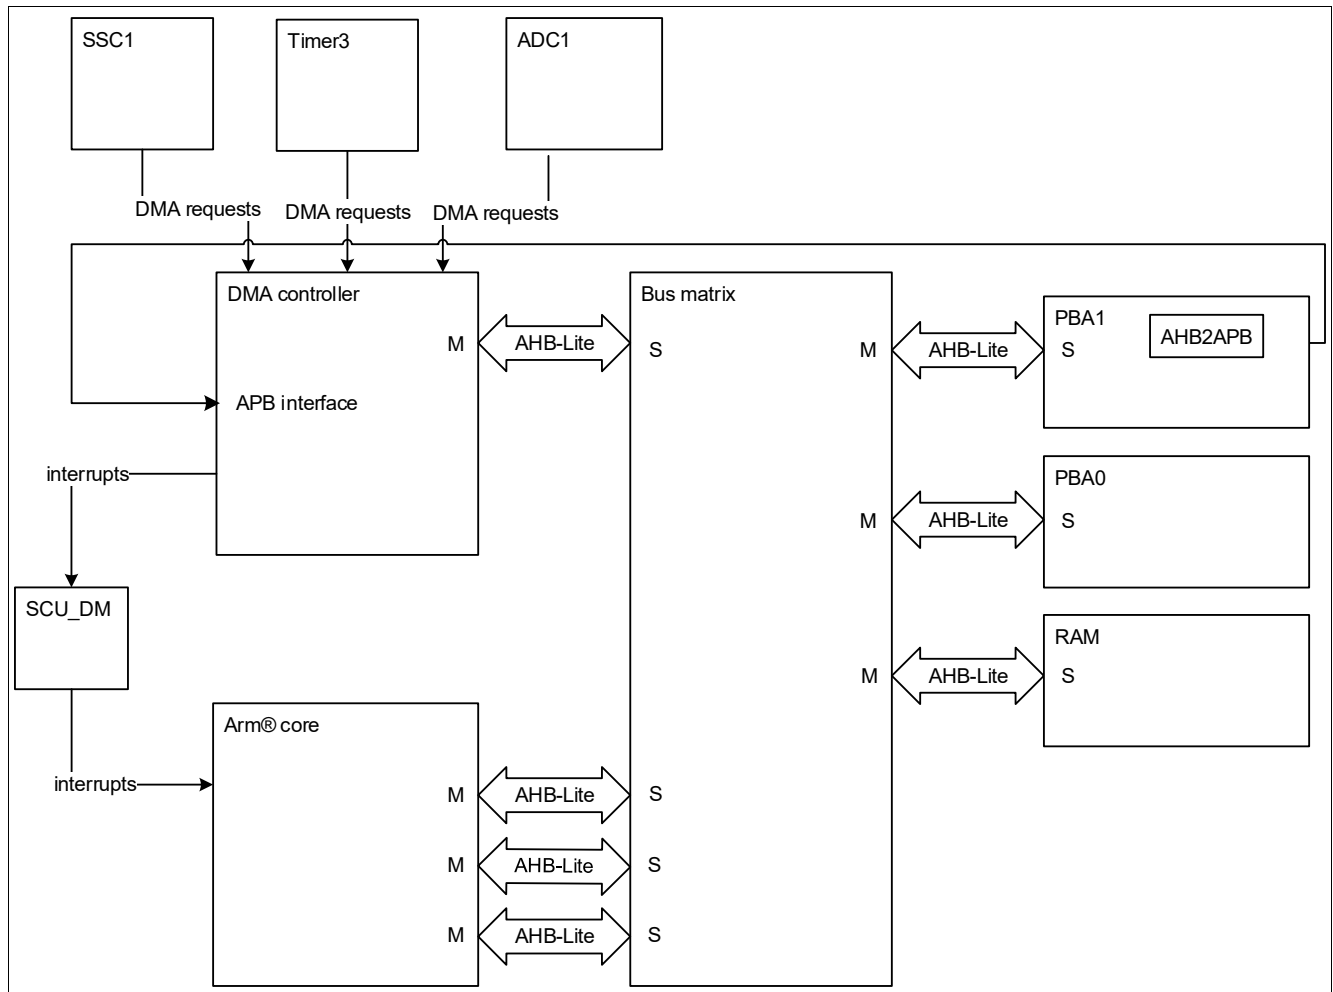

Figure 12 DMA controller top level block diagram
**Figure 12** shows the top level block diagram of the TLE9873QXW40.